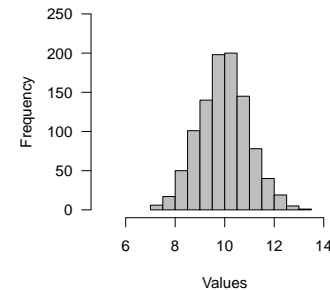

Figure 2: Frequency distribution of population.
The distribution of the data (Figure 2), resembles a normal distribution, which is reassuring since we created it using a random number generator that uses the normal probability distribution.
These data will represent the population (N) and has a mean or μ of 10.02. The values range from 7.2 to 13.2 (Figure 2). From this dataset, we can create several dataset sets by random sampling the vector with different n ($n = 100$, $n = 20$, $n = 10$, $n = 5$).
and a mean or $\bar{y} = 10.22$. These values certainly fall within the distribution of the population (Figure 2).